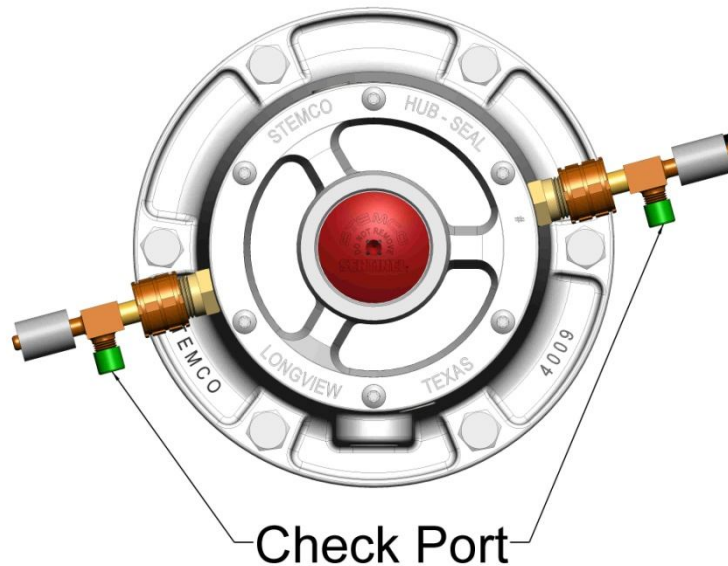

Figure 36
- Remove the metal cap from the check port that is provided on each hose. See Figure 36
- If the pressure is above or below the desired setting, adjust the pressure using the adjustment knob. See Figure 36.